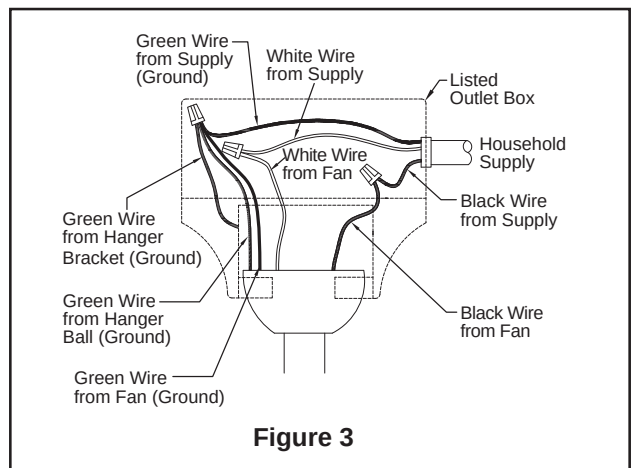

Figure 3
2. After connections have been made, turn leads upward and carefully push leads into the outlet box, with the white and green leads to one side of the box and the black leads toward the other side. The wires should be spread apart with the grounded conductor and the equipment-grounding conductor on one side of the outlet box and the ungrounded conductor on the other side of the outlet box. (Figure 3)